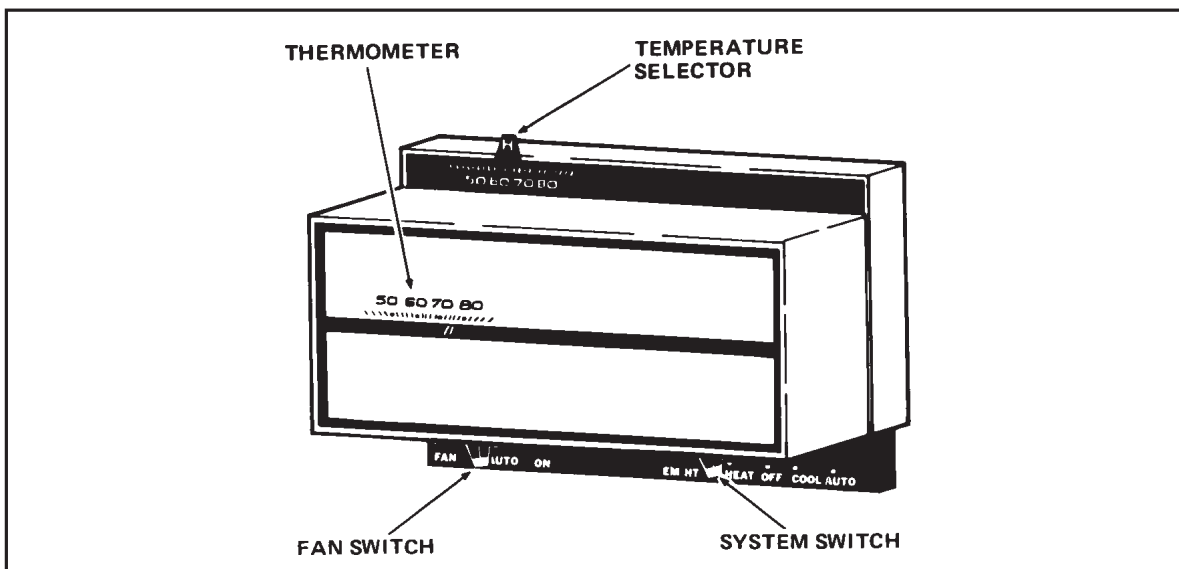

Figure 1. Typical Thermostat
1. Set the thermostat system switch to COOL and the thermostat fan switch to AUTO. (See Figure 1)
1. Set the thermostat system switch to HEAT and the thermostat fan switch to AUTO. (See Figure 1)
1. Set the thermostat system switch to AUTO and the thermostat fan switch to AUTO. (See Figure 1)
Set the thermostat system switch to OFF and the thermostat fan switch to AUTO. (See Figure 1) The system will not operate, regardless of the thermostat temperature selector(s) setting.
Set the thermostat fan switch to ON (See Figure 1). The indoor blower will start immediately, and will run continually until the fan switch is reset to AUTO.